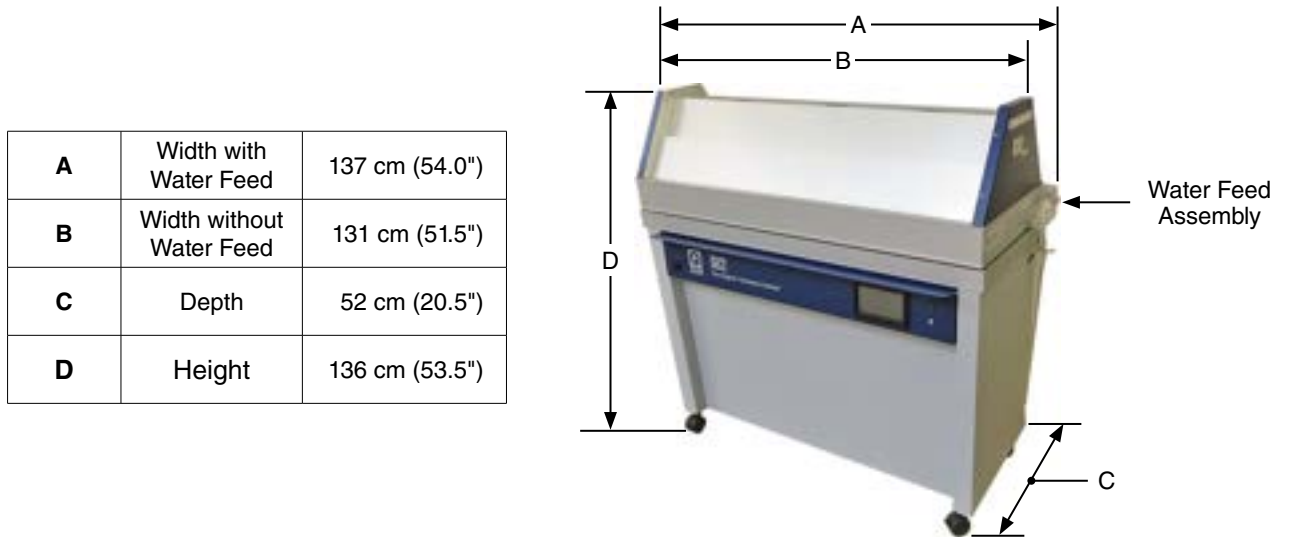

Figure 6.1a: External dimensions.
- The external dimensions for QCT testers are shown in Figure 6.1a.